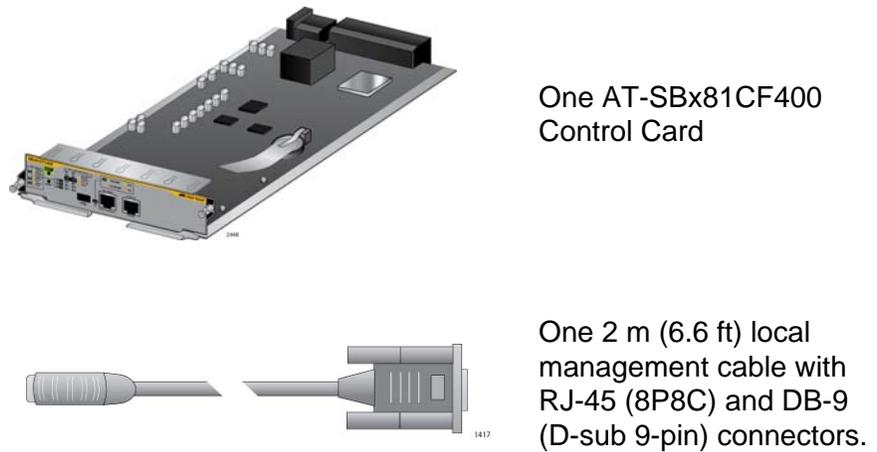

Figure 66. Items Included with the AT-SBx81CF400 Controller Card
2. Remove the new AT-SBx81CF400 Controller Fabric Card from the shipping package and verify the package contents, listed in Figure 66 on page 133.